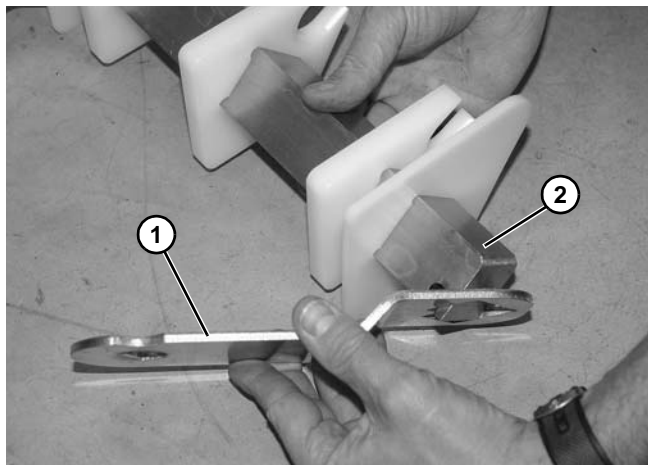

Figure 100
- Rotate and remove the tail plate (Figure 100, item 1) from support bar (Figure 100, item 2).